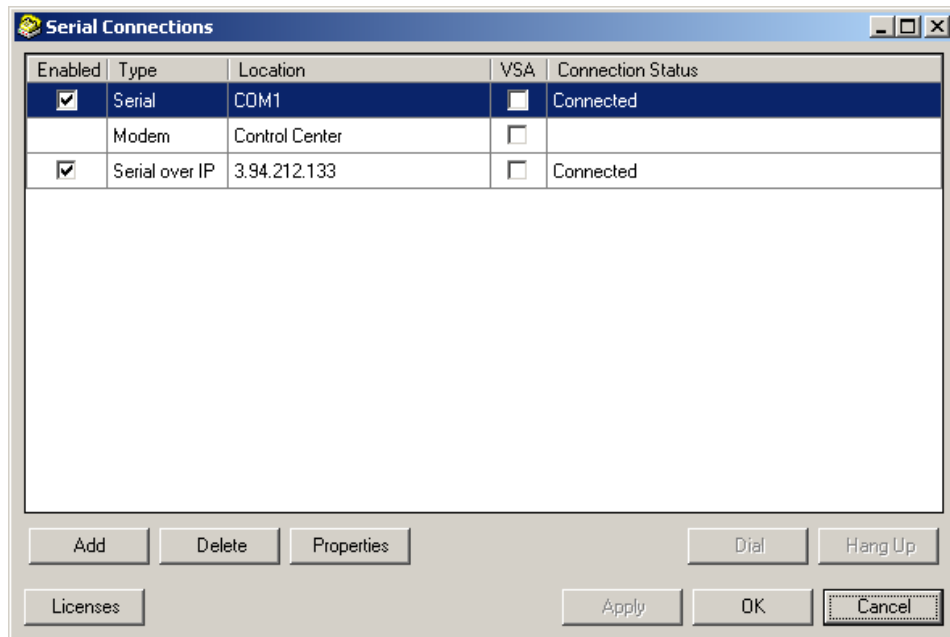

Figure 21: Serial Connections View with connection to Xport device added
9. Click OK. The selected Xport device will appear in the list of serial ports in the Serial Connections window (Figure 21). Ensure the Enable checkbox is checked, assign a VSA license (if applicable) and click Apply. The Connection Status should display “Connected”. Otherwise, troubleshoot the link based on the error message displayed in the Connection Status field.